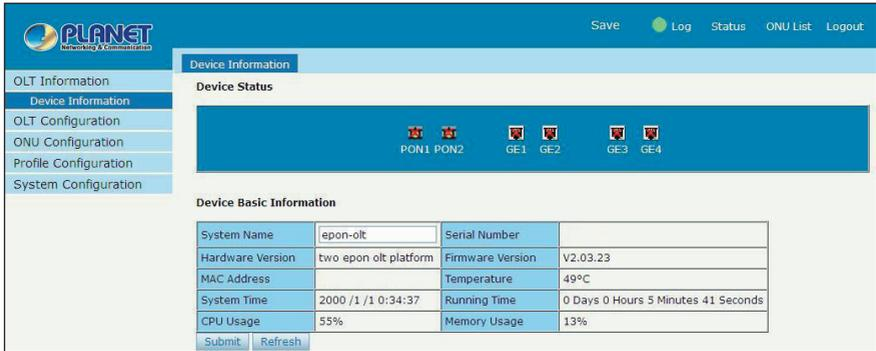

Figure 5-3: Web Main Screen of OLT
3. After entering the password, the main screen appears as Figure 5-3 shows.